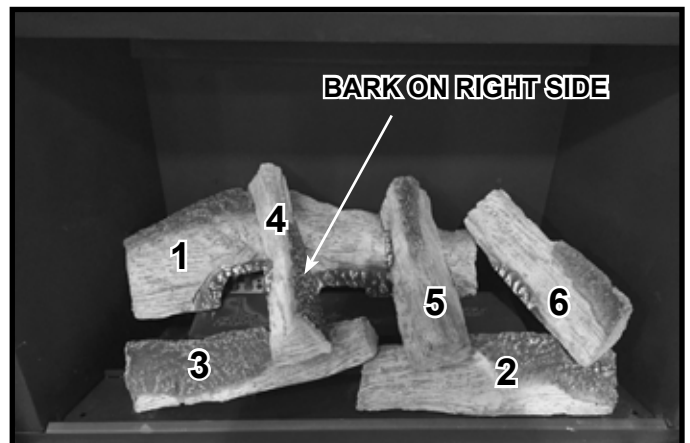

Figure 9. LOGS-MERC32 Installed
**Log #4 (SRV2218-706):** Place the log into the flat spots on Log 1 and Log 3. See Figure 9 and note that the barked side is on the right. Position the back end so that it touches the back of the appliance.